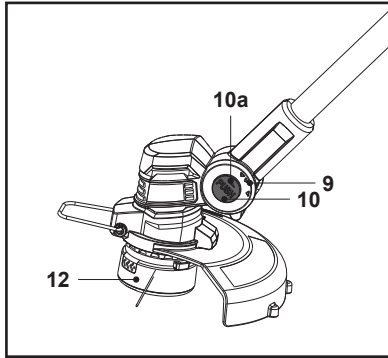

Fig. 9
Tilt the angle of trimmer head (12) to fit the ground conditions for trimming or edging use by aligning the indicator triangle (10a) on unlock button (10) with one of three indicators of the pole support (9) (Fig. 9).